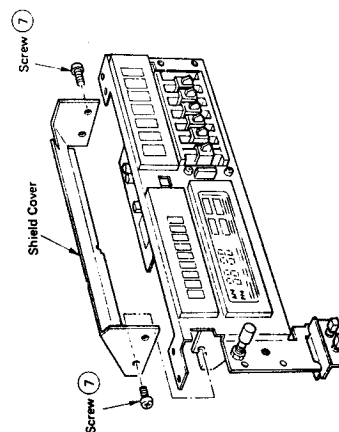

Fig. 7
- 1) Remove two shield cover fixing screws (7) shown in Fig. 7.